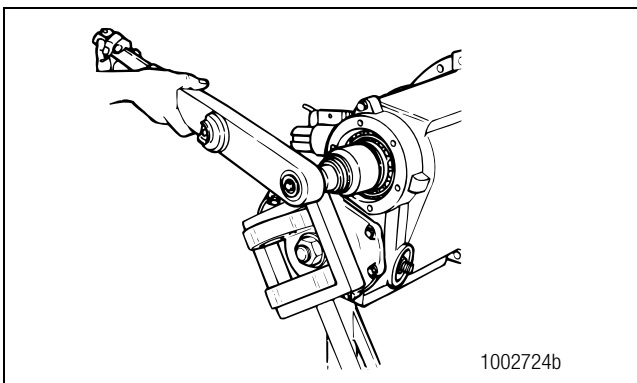

Figure 3.20
3. Use the correct tool to hold the input yoke or flange. Loosen, but do not remove, the drive pinion nut. Figure 3.20.